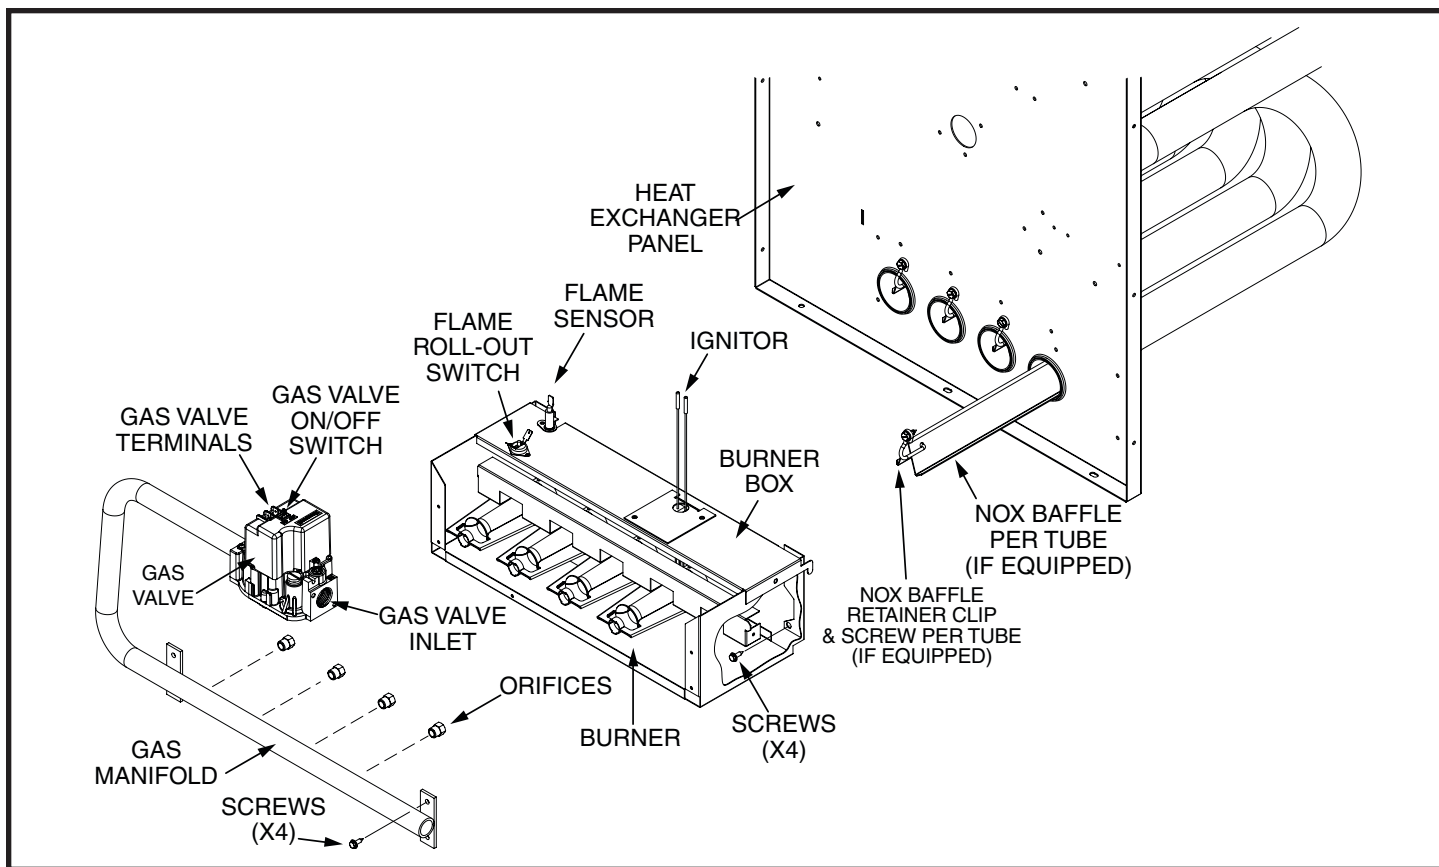

Figure 8. Burner & Manifold Assembly
11. Carefully remove the four screws inside the burner box (2 at each end), securing the complete burner box assembly to the heat exchanger panel as shown in Figure 8 \(page 23\). **BE EXTREMELY CAREFUL NOT TO DAMAGE THE IGNITOR WHILE REMOVING THE BURNER ASSEMBLY.**
8. Carefully remove the four screws inside the burner box (2 at each end), securing the complete burner box assembly to the heat exchanger panel as shown in Figure 8 \(page 23\). **BE EXTREMELY CAREFUL NOT TO DAMAGE THE IGNITOR WHILE REMOVING THE BURNER ASSEMBLY.**